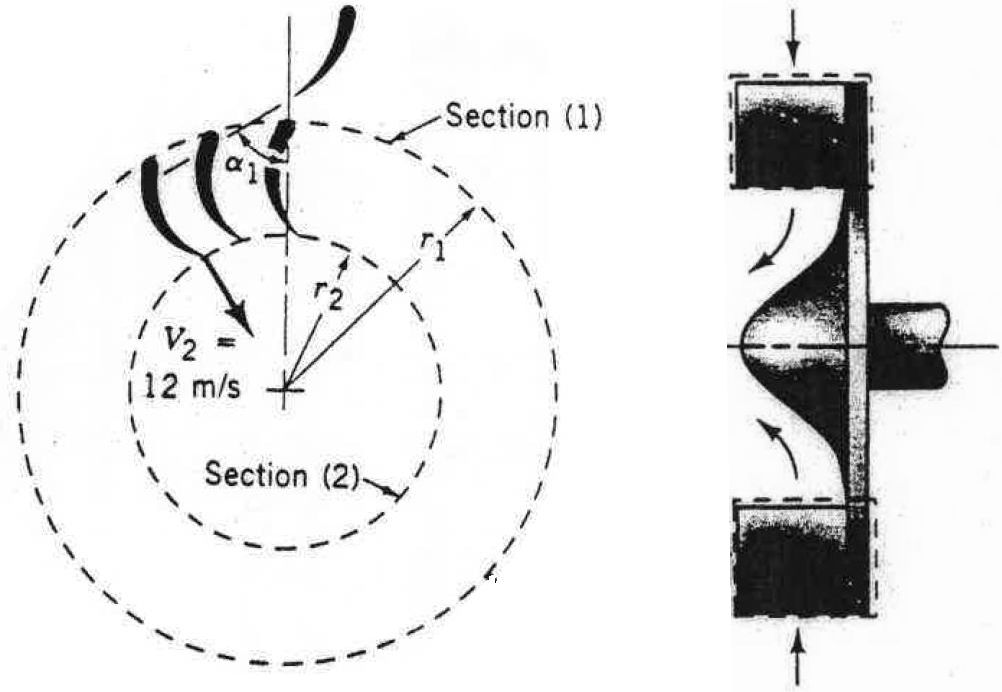

Figure 3. Question 4.
4. An inward flow radial turbine (see Figure 3) involves a nozzle angle, α_1 , of 60° and an inlet rotor tip speed, U_1 , of 6 m/s. The ratio of the rotor inlet to outlet diameters is 2.0. The absolute velocity leaving the rotor at section (2) is radial with a magnitude of 12 m/s. Determine the energy transfer per unit of mass of fluid flowing through this turbine if the fluid is (a) air or (b) water. (6p)